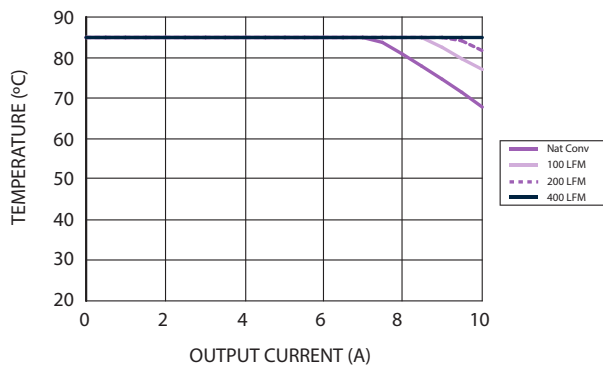
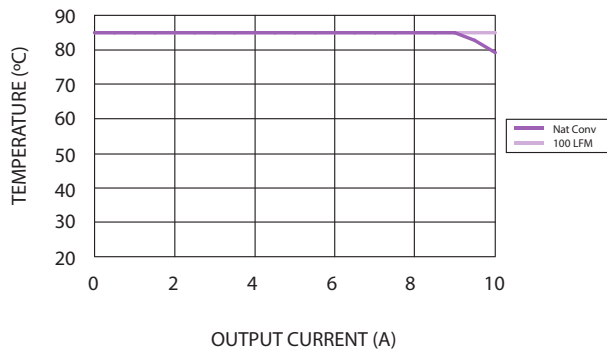

Figure 1 - Safe Operating Area
Figure 6 - Safe Operating Area
2. See Figures 1, 2 and 3 for safe operating curves of PTH12060W and Figures 6, 7 and 8 for safe operating curves of PTH12060L.